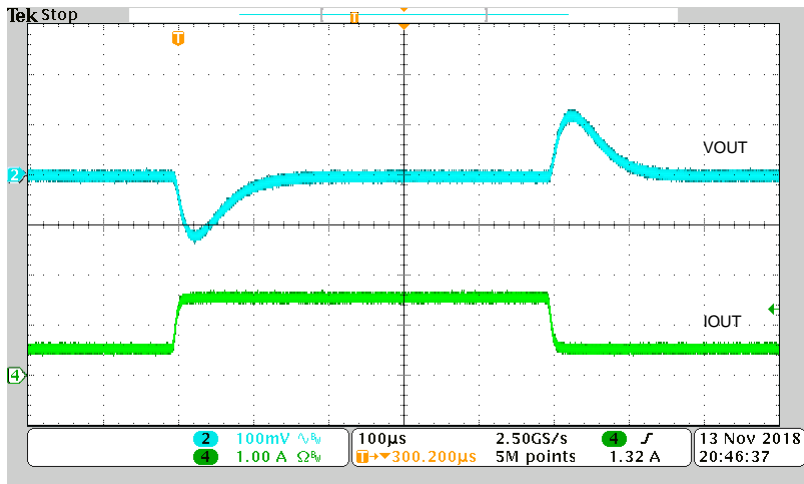
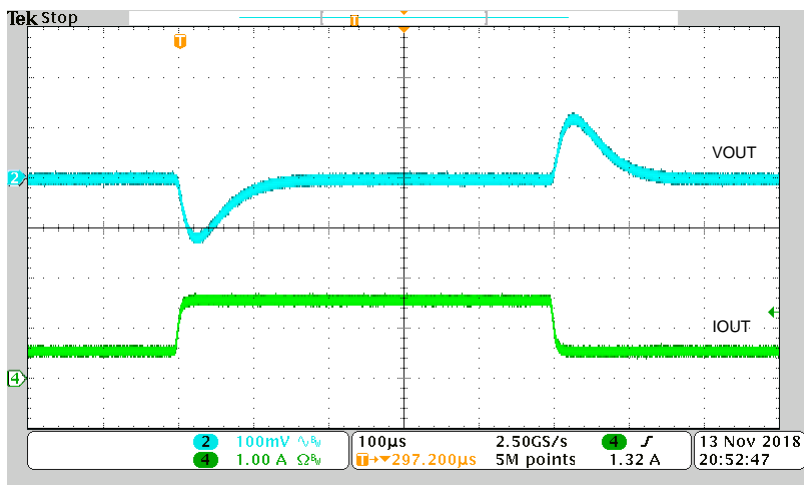

Figure 18. Load Transient of Solution (1)
Figure 20. Load Transient of Original Converter
With a verified the load transient response, there is no significant difference in solution (1) and (2) compared to the original converter. Figure 18 through Figure 20 show the typical load transient response comparison results. The input voltage is 4 V, the output current step is from 25% to 75% of 2 A.